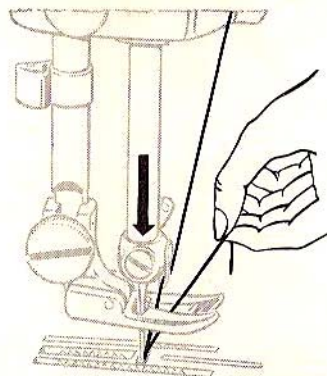

Fig. 30
2. Pull up needle thread and bobbin thread will come with it, as shown in Figs. 30, 31 and 32.